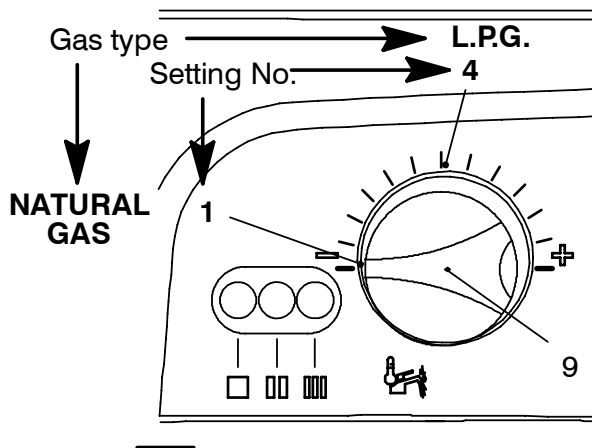

Fig. 8.5
At this step it is possible to visualize the current setting by keeping the reset button 7 pressed for more than 5 seconds. The lamps 10 will flash a number of times corresponding to the setting of the knob 9 in Fig. 8.5.
- 13 To change the setting turn the knob 9 on a position corresponding to the gas used as shown in Fig. 8.5.